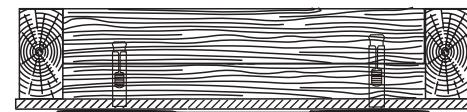

Figure 2
1. Use 2 1.5V/AAA battery to replace battery. (Fig. 2)